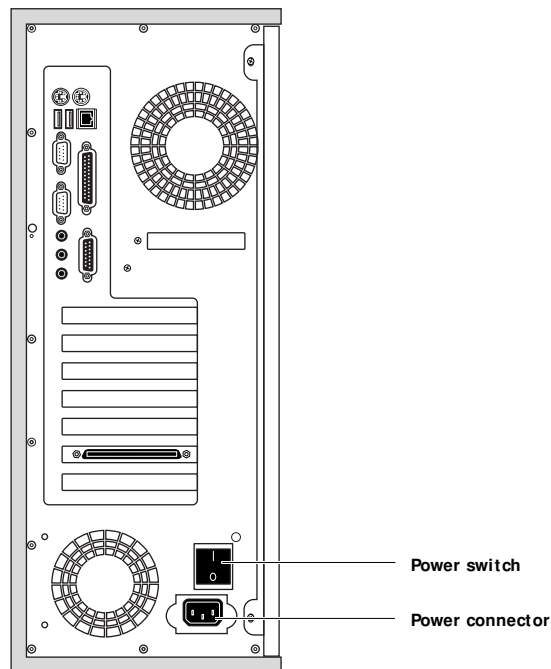

FIGURE 3-1 E-820 power
1. Connect the appropriate power cable (U.S., U.K., or European) to the power connector at the back of the E-820 (see Figure 3-1 below).